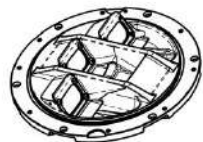

Figure 5-20
- Place the prism pressing bracket and prism washer to the working position and screw the M5×12 screws into the threaded holes after dipping a little of anaerobic adhesive (see Figures 5-20 and 5-21);